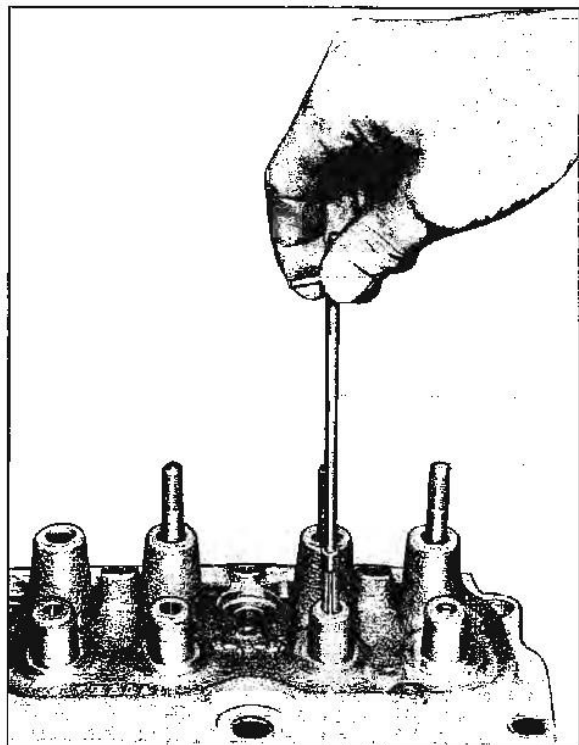

Fig. 6-30 Cleaning Valve Guide Bore
2. Thoroughly clean the valve guides using tool J-8101 (Fig. 6-30).